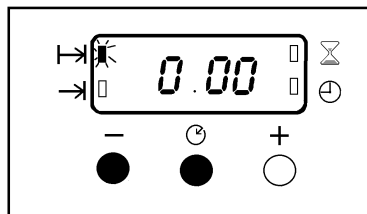

Fig.12.
- i) To cancel an automatic programme press the Selector Control button until the 'Cook Time' indicator neon () neon flashes. Press the decrease control (-) until the display reads 0.00 as Fig. 12.